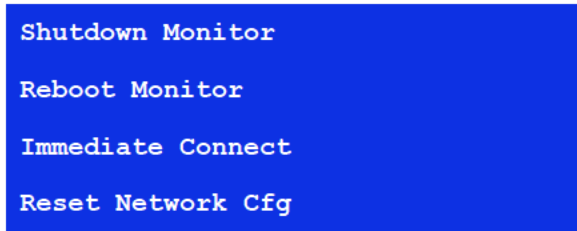

Figure 25: LCD System Management View in Default Mode
**Important** To reboot the monitor use the System Management View on the front panel menu to reboot the monitor. See Figure 25: LCD System Management View in Default Mode.
Figure 25 shows the LCD displaying the System Management view in Default mode with the available four functions. The front-panel buttons behave as summarized in Table 12.